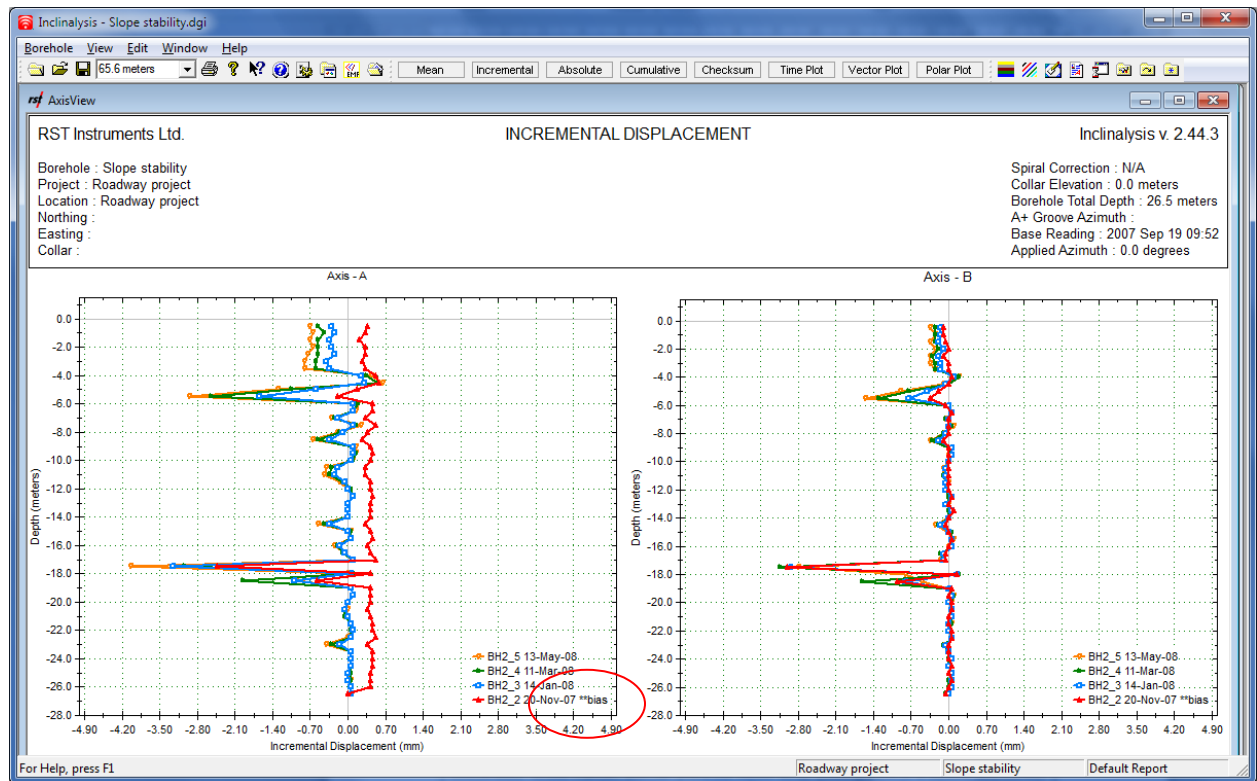

FIGURE 8-29 BIAS CORRECTION EXAMPLE
- 3 A dialog box should appear that shows the current inclinometer survey files which are loaded into the report (Figure 8-29). Press **Add** and navigate to the location in which you placed your spiral survey file in ***.csv format** (RST). If you copied the file to the borehole directory, it will appear on the list with the rest of the survey files.